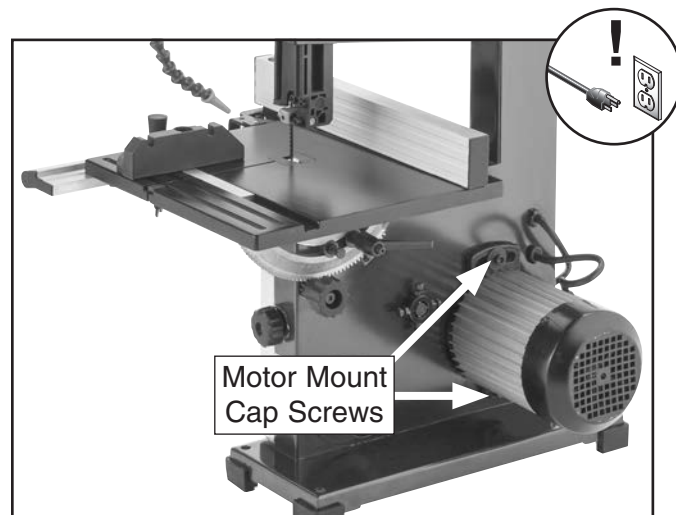

Figure 52. Location of motor mount cap screws used for adjusting belt tension.
2. Loosen motor mount cap screws shown in **Figure 52**.
3. Loosen motor mount cap screws (see **Figure 52** on **Page 43**).